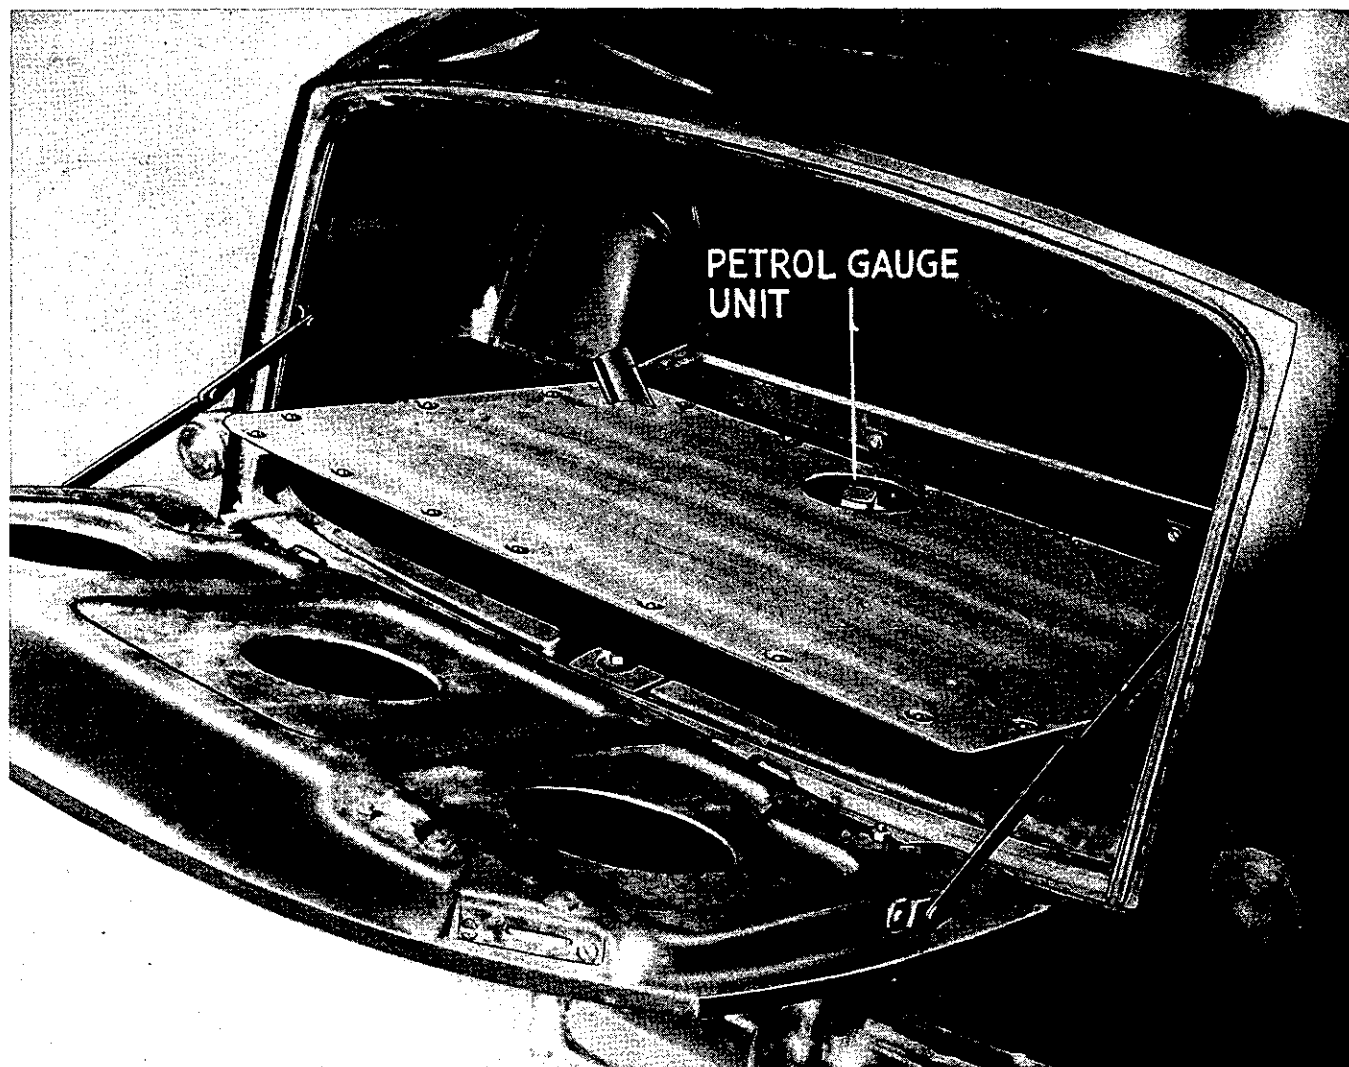

Fig. 8. Showing petrol tank partially removed
7. Remove eighteen $\frac{7}{16}$ " A/F headed setscrews which secure tank to body and raise rear of tank, as shown in Fig. 8, and remove over the boot lid.